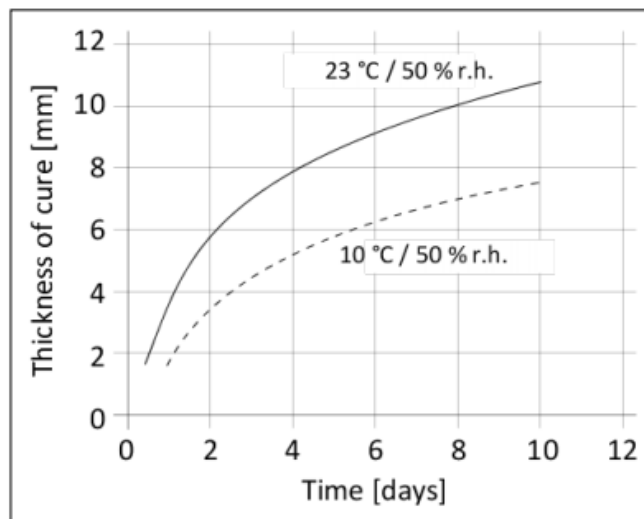

Figure 5.
**Do Not proceed with fitting any hardware to the frame until the glue has set and the frame is securely in place (at least 24 hours).** (Figure 5).